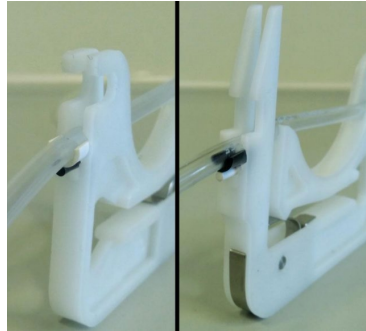

Fig. 5 | Detail showing proper alignment of tubing and stoppers in cassette, avoid twisting.
6. Thread the tubing into the cassette gap until the stoppers reach the notches on the sides of the cassette. (Fig. 4 and Fig. 5)